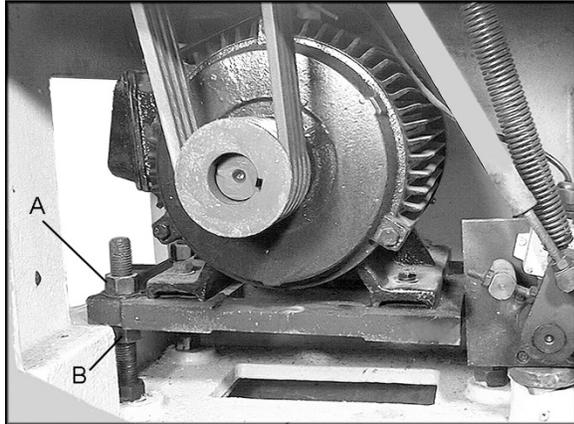

Figure 14-6: Belt Adjustment
- Loosen upper hex nut (A, Figure 14-6). Place scrap piece of wood under motor to act as lever. Lift motor up and block temporarily.
6. Tension belts by loosening lower nut (B, Figure 14-6) and tightening upper nut (A, Figure 14-6) until light finger pressure causes approximately 3/4" deflection on each belt.